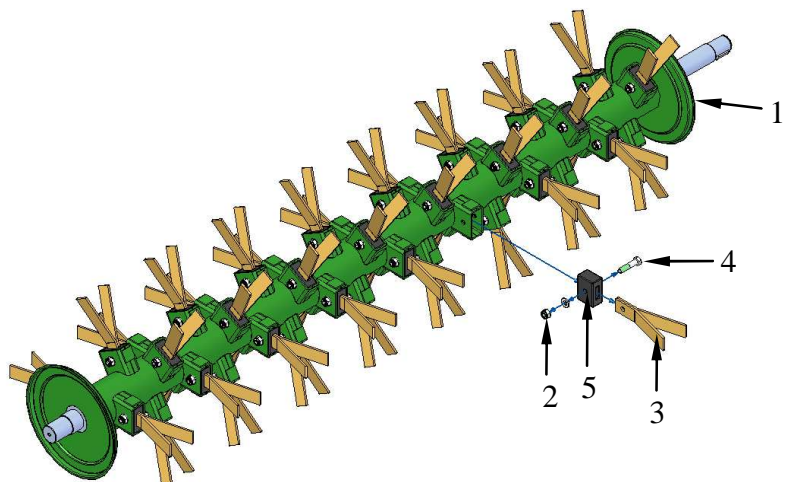

Fig. 21. Parts of tine conditioner
Replacement of flails (3) consists of unscrewing nuts (2), removing bolts (4) and mounting brand new flails (3) (**Fig. 21**).
Disassembly of a flail consists of unscrewing a nut (self-locking M16 gal. cl. 10.9) with open wrench (24), removing both bolt M16x90 cl. 10.9. and the flail. Assembly of a new flail consists of performing the above sequence in reverse order (**Fig. 21**).